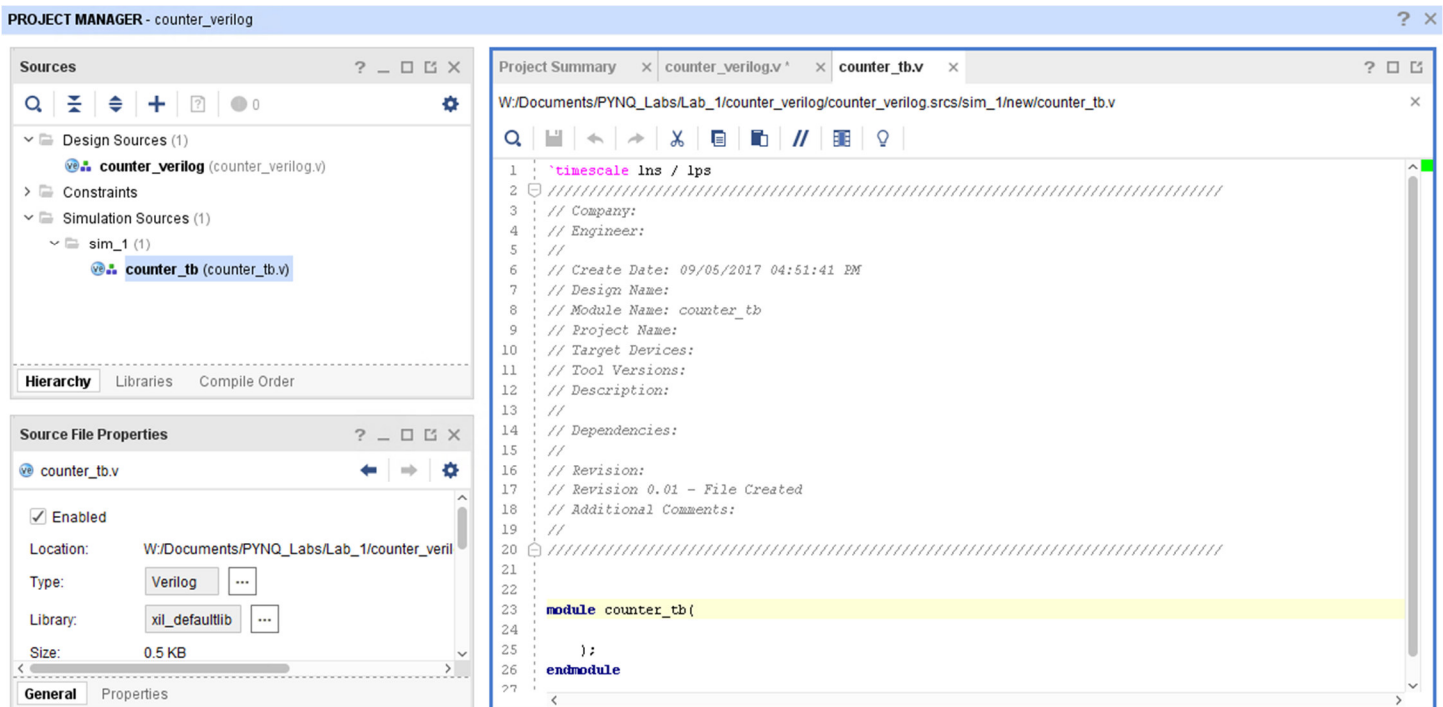

Figure 20: Testbench template
5. The testbench file gets created. Double-click and open the testbench file which is shown in Figure 20.